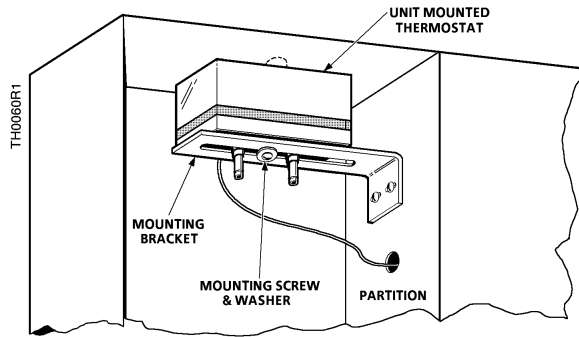

Figure 5. Unit Mounted.
- *Figure 5* shows a typical installation where the mounting bracket is fastened to the partition with two sheet metal screws (034-257).